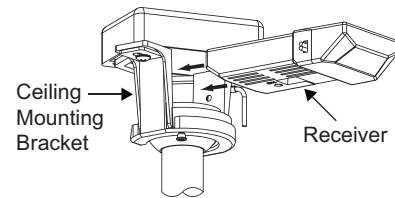

Figure 8
2. Insert the receiver into the mounting bracket with the flat side of the receiver facing the ceiling. (Fig. 8)